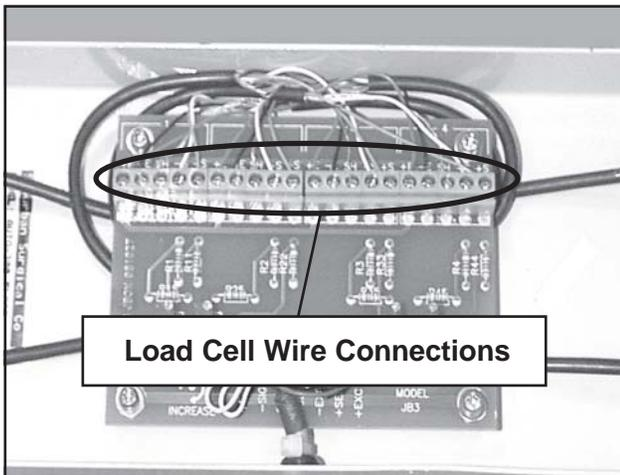

Figure 49. Summing Board - Load Cell Wire Connections
5. Refer to Figures 49 and 50 and disconnect the five wires that go to the load cell you are replacing. **DO NOT** disconnect wires to the other load cells.
4. Connect the wires from the cell cable to the appropriate terminals on the summing board (Figures 49 and 50).